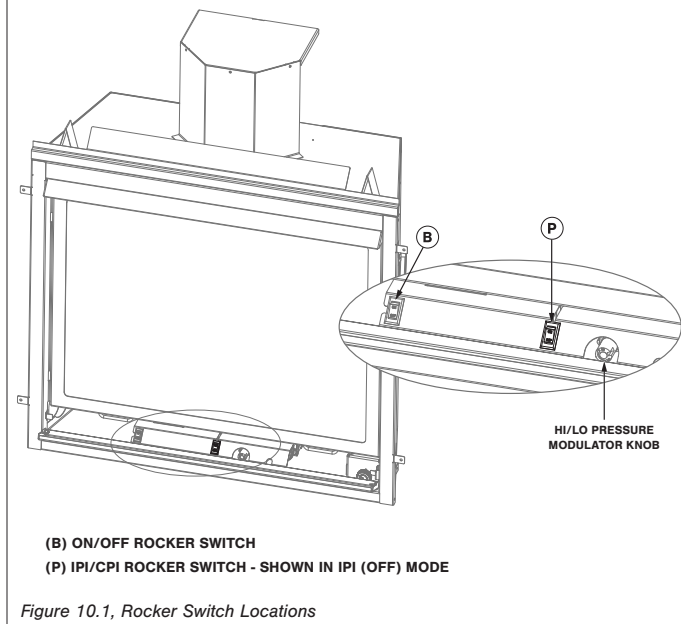

Figure 10.1, Rocker Switch Locations
There are (2) rocker switches located on the gas valve housing in the control compartment. The main burner rocker switch is marked 'B' and the IPI/CPI pilot rocker switch is marked 'P'. See in Figure 10.1.